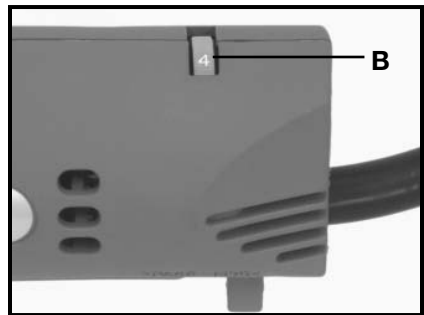

Fig. 15A
Speed is adjustable by turning thumbwheel (B) Fig. 15A. Thumbwheel position #1 provides the slowest operating speed (2100 SPM) and position #6 the fastest (6000 SPM). Speed may be changed while motor is running or while stopped.